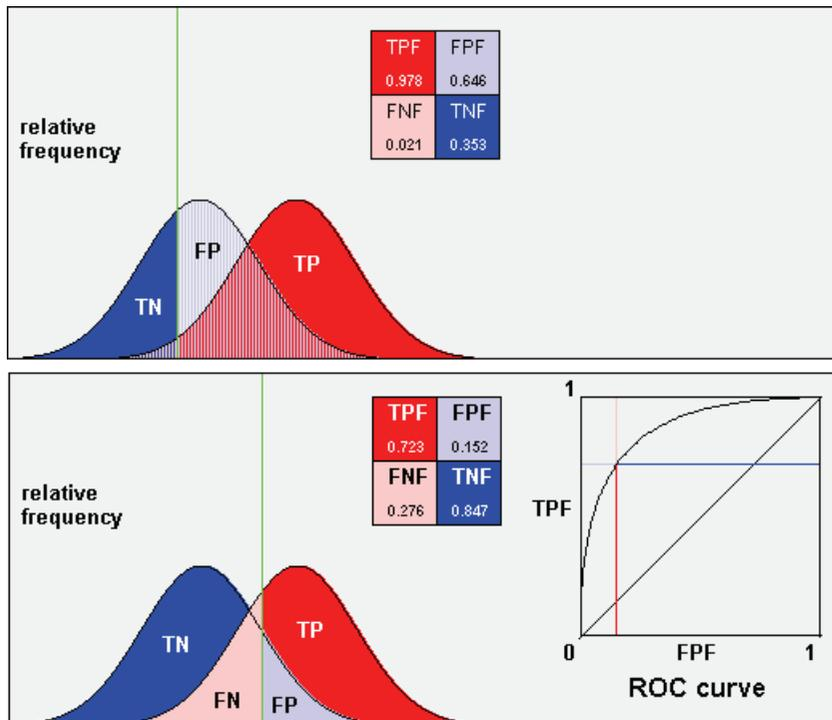

Figure 6-6 Graphical explanation of the ROC curve
Within Figure 6-6, the ROC curve is explained on an example of two populations – diseased and non-diseased patients. For all patients the same test is performed and numeric results are received for each patient. A plot of these results leads to the upper diagram shown. The vertical (green) line within the diagram indicates an arbitrary chosen threshold: a value above this threshold represents a positive test result and a value below it a negative test result. The position of this cut-off point will determine the number of true positives (TP), true negatives (TN), false positives (FP) and false negatives (FN). If the test threshold is moved from left to right, the proportion of the FP decreases, but the TP also decrease simultaneously (lower diagram). The ROC curve (graph right to the lower diagram) is an exploration of what happens to the TPF and the FPF if the position of the arbitrary threshold is varied. The point corresponding to the chosen threshold is shown on the ROC curve as the cross. If the threshold is very high, almost no FP occur on the one hand, but only less TP are identified on the other hand. If the threshold is moved towards a more reasonable, lower value, the number of TP increases (the ROC curve moves steeply up). Finally, a region will be reached where there is a remarkable increase in FP and the ROC curve slopes off as the test threshold is moved down to ridiculously low values.